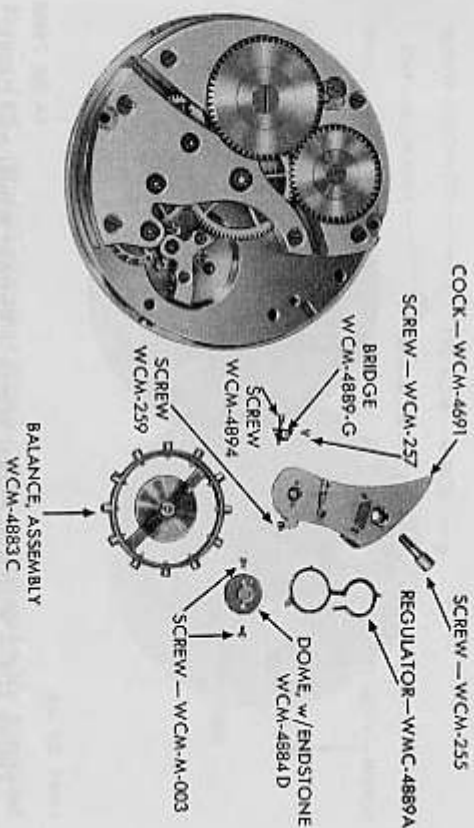

Figure 102 — Waltham Pocket Watch — Balance Cock and Balance Assembly Removed
k. Remove Balance Cock and Balance Assembly (fig. 102). Invert movement on movement block, train side up. Loosen hairspring stud screw and free hairspring stud with a small screwdriver. Remove balance cock screw and balance cock. Remove balance assembly with tweezers. Remove balance cock dome screws and remove dome with end stone. Remove regulator assembly.
i. **Replace Balance and Balance Cock** (fig. 102). Replace balance cock dome with end stone assembly and secure with end stone